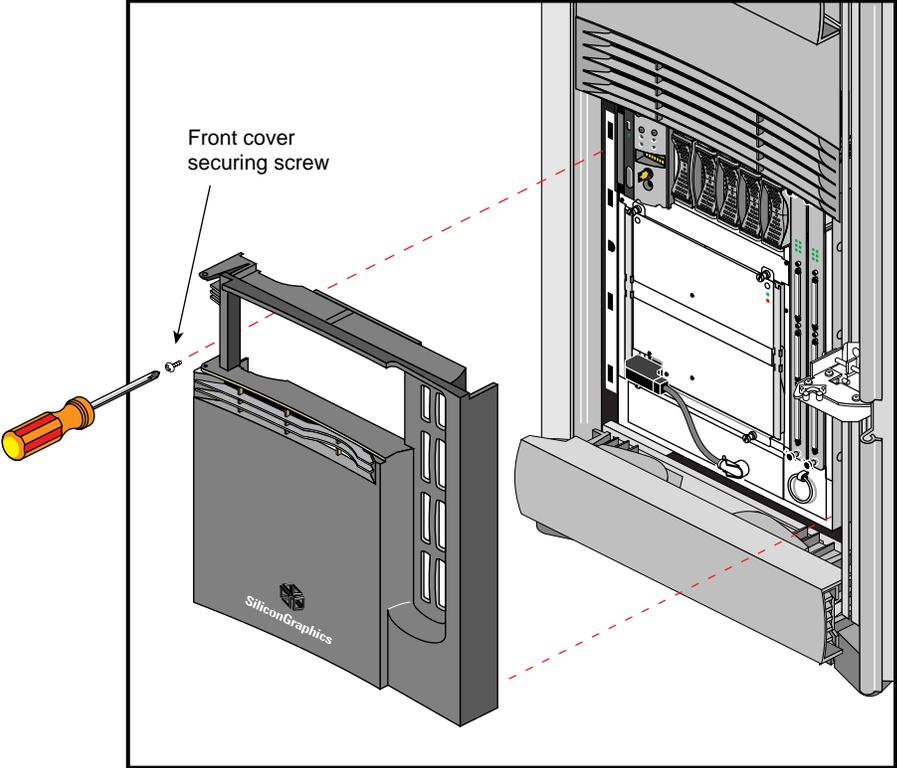
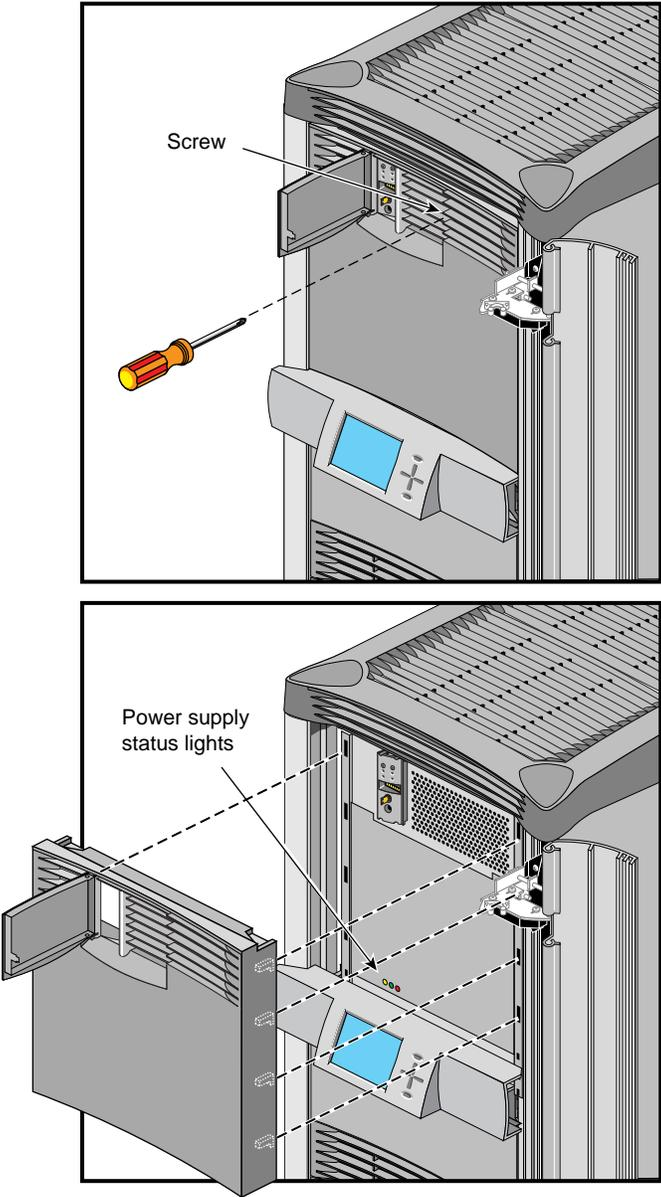

Figure 5-6 Removing the Compute Module's Facade
Figure 5-7 Removing a graphics Module Facade
3. Remove the screw that secures the facade to the chassis (see Figure 5-6). Figure 5-7 shows the screw location on the graphics module.